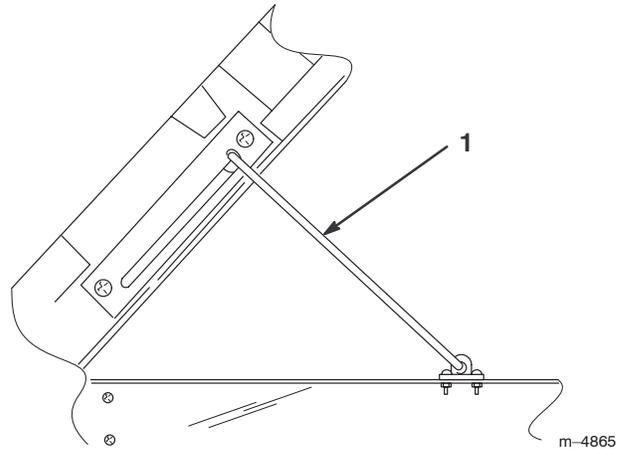

Figure 21
3. Raise the bed to its full height; then lower it slightly to engage the prop rod (Fig. 21).